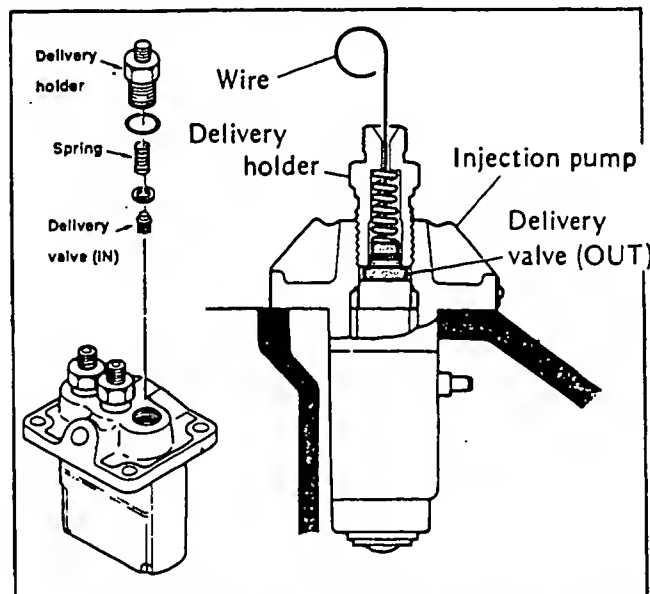

Figure 2. Delivery Holder, Spring, Delivery Valve
2. Remove the DELIVERY HOLDER at the front of the injection pump (Figure 2).
3. Remove the DELIVERY VALVE (IN). Reinstall the SPRING and the DELIVERY HOLDER.